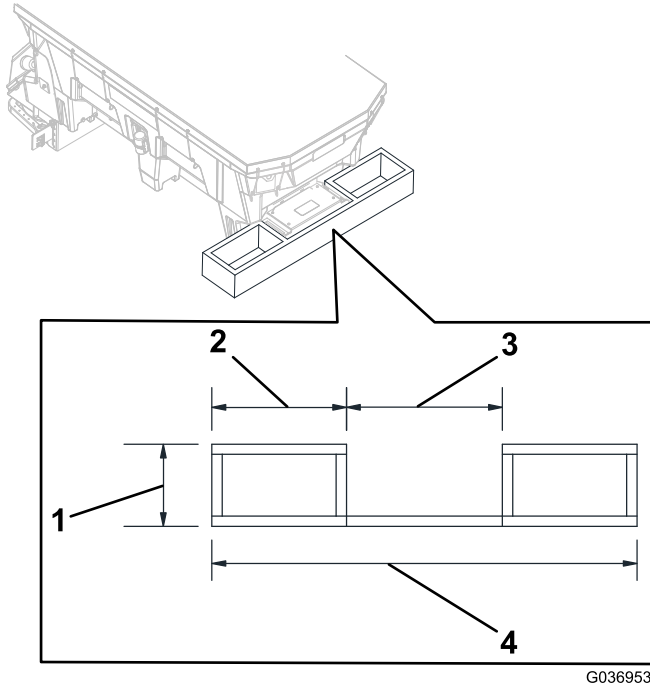

Figure 9
2. Using 3.8 x 18.4 cm (1-1/2 x 7-1/4 inch) lumber, build the spacer as shown in Figure 9.